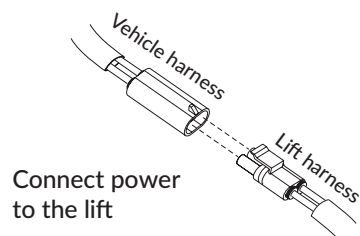

Figure 4-11
3. Position the open box behind the vehicle and connect the wiring harness together. *See Figure 4-11.*